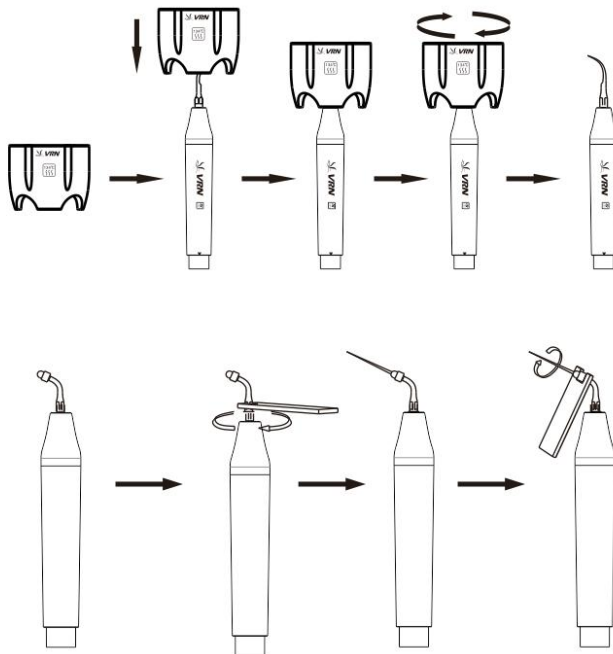

Figure 9 Installation diagram of tip and Endo file
① Screw the file to the ultrasonic handpiece by Endo wrench.
② Click the "E" button on the panel to switch to endodontics treatment mode.
③ The default power is 1 gear after the device switch to endodontics treatment mode. Adjust the power according to the actual situation during clinical treatment.
④ Select a suitable file and slowly put it into the root canal of the patient's teeth. Step on "A" button of the foot switch to perform root canal irrigation or other endodontics treatment functions.
⑤ The file should not be compressed too tightly in the root canal during clinical scaling.
⑥ The file must be put into the root canal to activate the foot switch.
⑦ The power range of root canal irrigation is recommended to be between 1-5 gears.
3.1.4.Torque wrench operation (See figure 9)